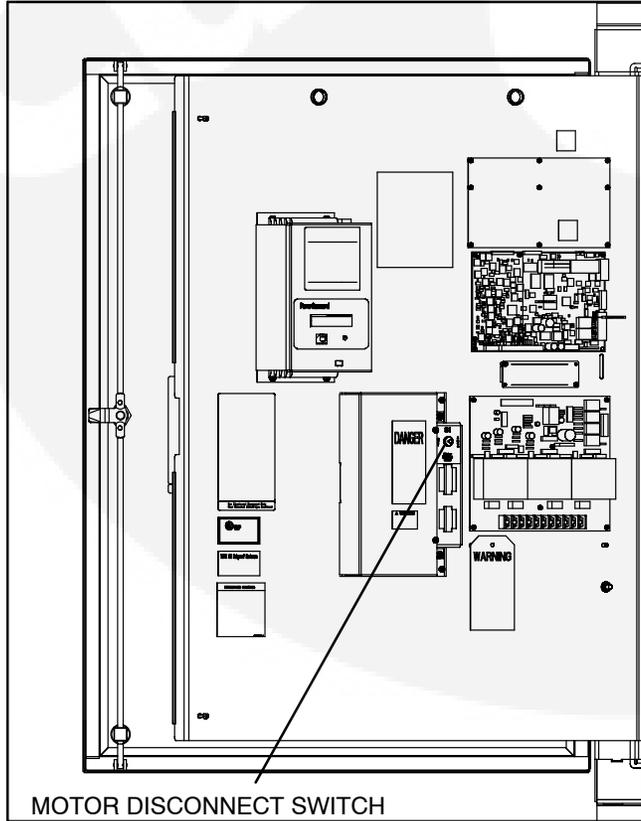

FIGURE 2-6. MOTOR DISCONNECT SWITCH
**⚠️WARNING** *Accidental actuation of the linear motor could cause severe personal injury. Before making any adjustments, place the Motor Disconnect Switch (Figure 2-6) in the Off position. Return the switch to the Auto position after adjustments are completed.*